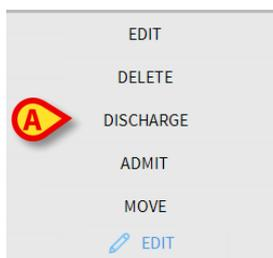

Fig 116
A menu containing various options opens (Fig 116).
- Click the **Discharge** button (Fig 116 A)